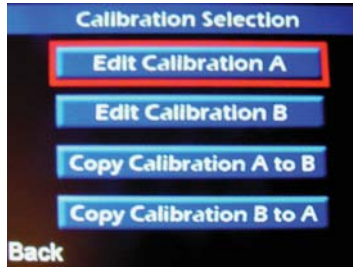

Figure 8
- From the "TUNING" screen, use the "UP" and "DOWN" arrow buttons to select "EDIT CALIBRATION A" or "EDIT CALIBRATION B" and press the "OK" button (Figure 8).